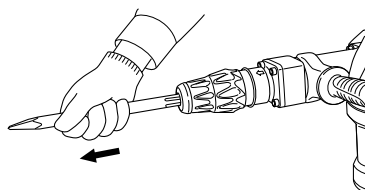

Fig. 3
- (3) Adjust the groove position while turning the tool, and furthermore insert it until it hits the end of the hole.
- (4) Return grip (A) to its original position, pull the tool to make sure it is locked completely. (Fig. 3)